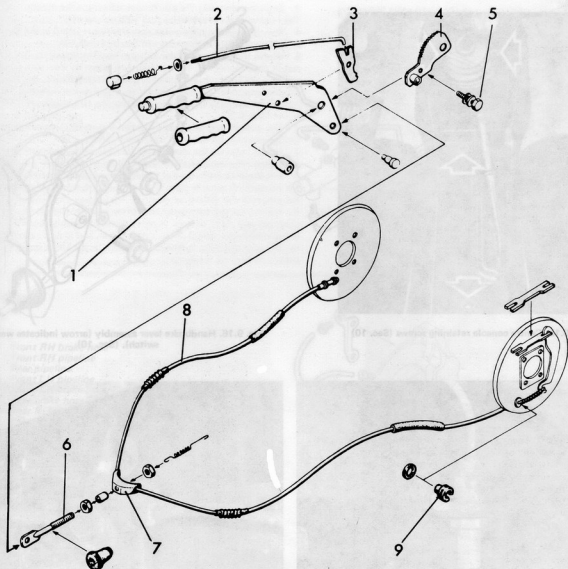

Fig. 9.14. Handbrake system components (Sec. 10)
- 2 The action of the brake begins when the hand lever is raised and the relay rod is pulled forward. This movement creates equal tension in the cable connected to the actuating levers in the brakes. Inside the brake assembly the tension in the cable forces the rearward shoe against the drum, and the forward shoe against the drum via the forked strip between that shoe and the actuating lever (Fig. 9.14).